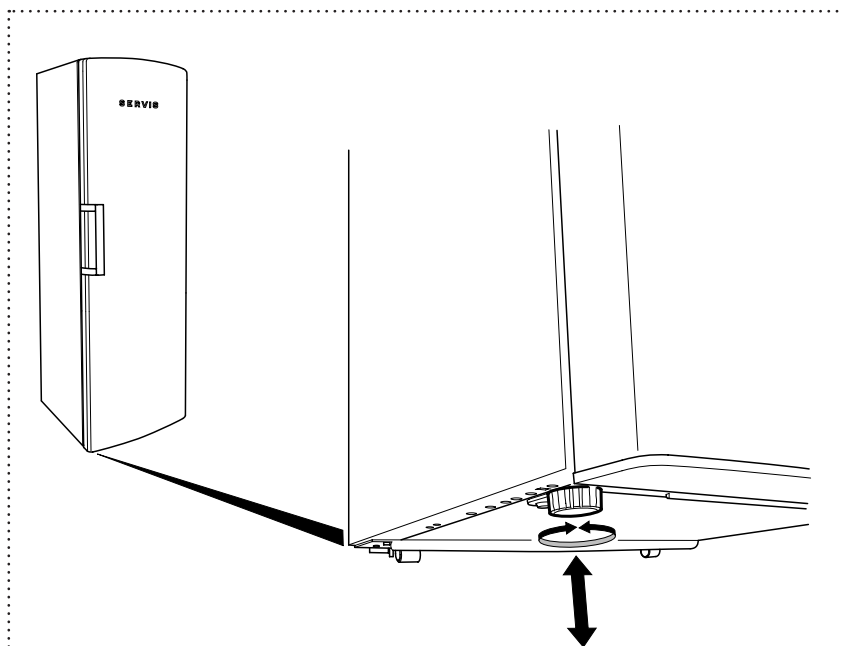

Figure 4
- ❶ To increase the height of the Fridge, turn the feet clockwise (Figure 4).
- ❷ To decrease the height of the Fridge, turn the feet anti-clockwise (Figure 4).